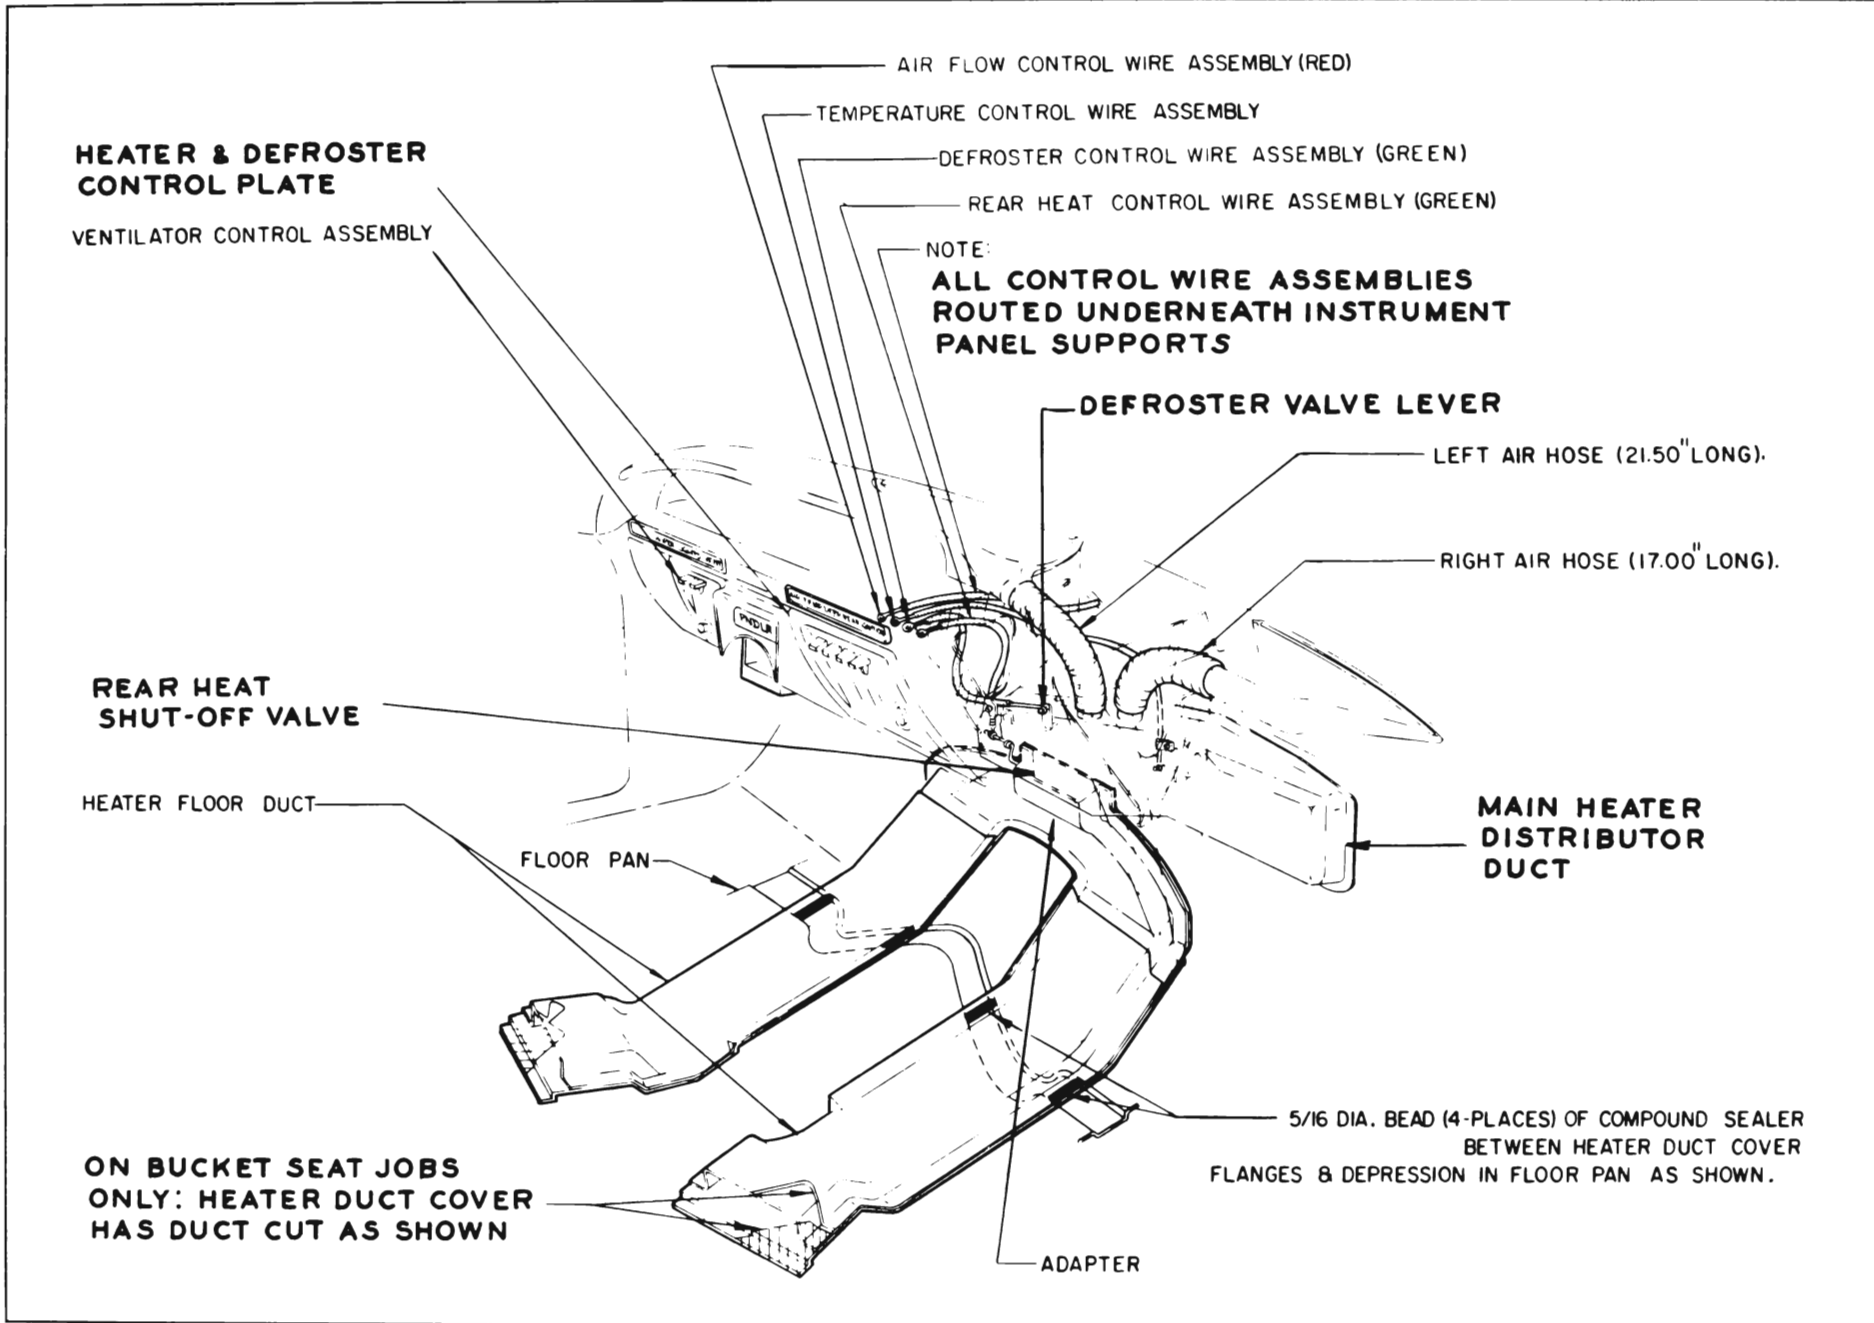

Figure 11-22—Heater-Defroster Air Distribution System
5. Remove heater floor pan ducts and adapter between floor ducts and heater assembly. See Figure 11-22.